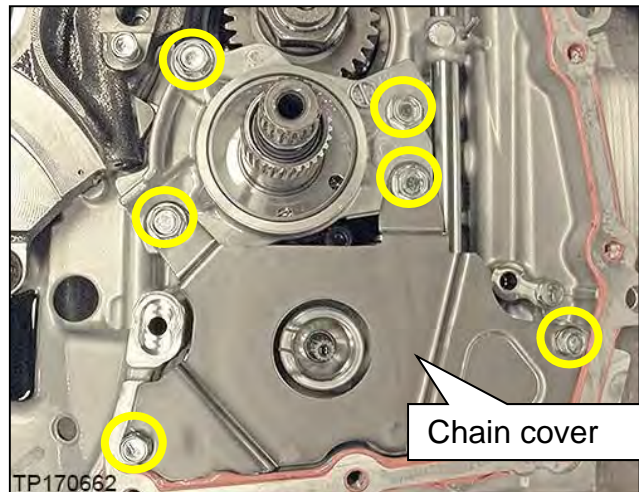

Figure 78
56. Remove the six (6) bolts shown in Figure 78, and then remove the chain cover.